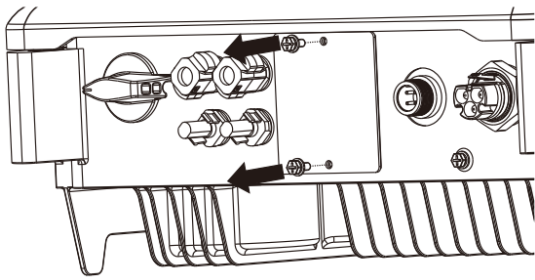

Fig. 29. Removing protective cover
2. Remove the protective cover from the housing base. (See Fig. 29)